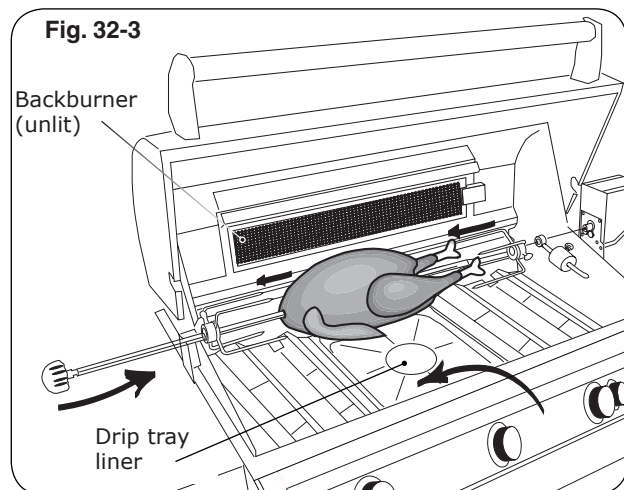

Fig. 32-3
4. Slide the left meat holder onto the rod (and tighten), the meat onto the rod and into the holder, followed by the right meat holder onto the rod and into the meat as shown in Fig. 32-3. Tighten the right meat holder. Be sure the meat is centered and balanced as well as possible.
9. To keep drippings off the burners and simplify cleanup, place Fire Magic® drip tray liners under the meat, if desired (Fig. 32-3).